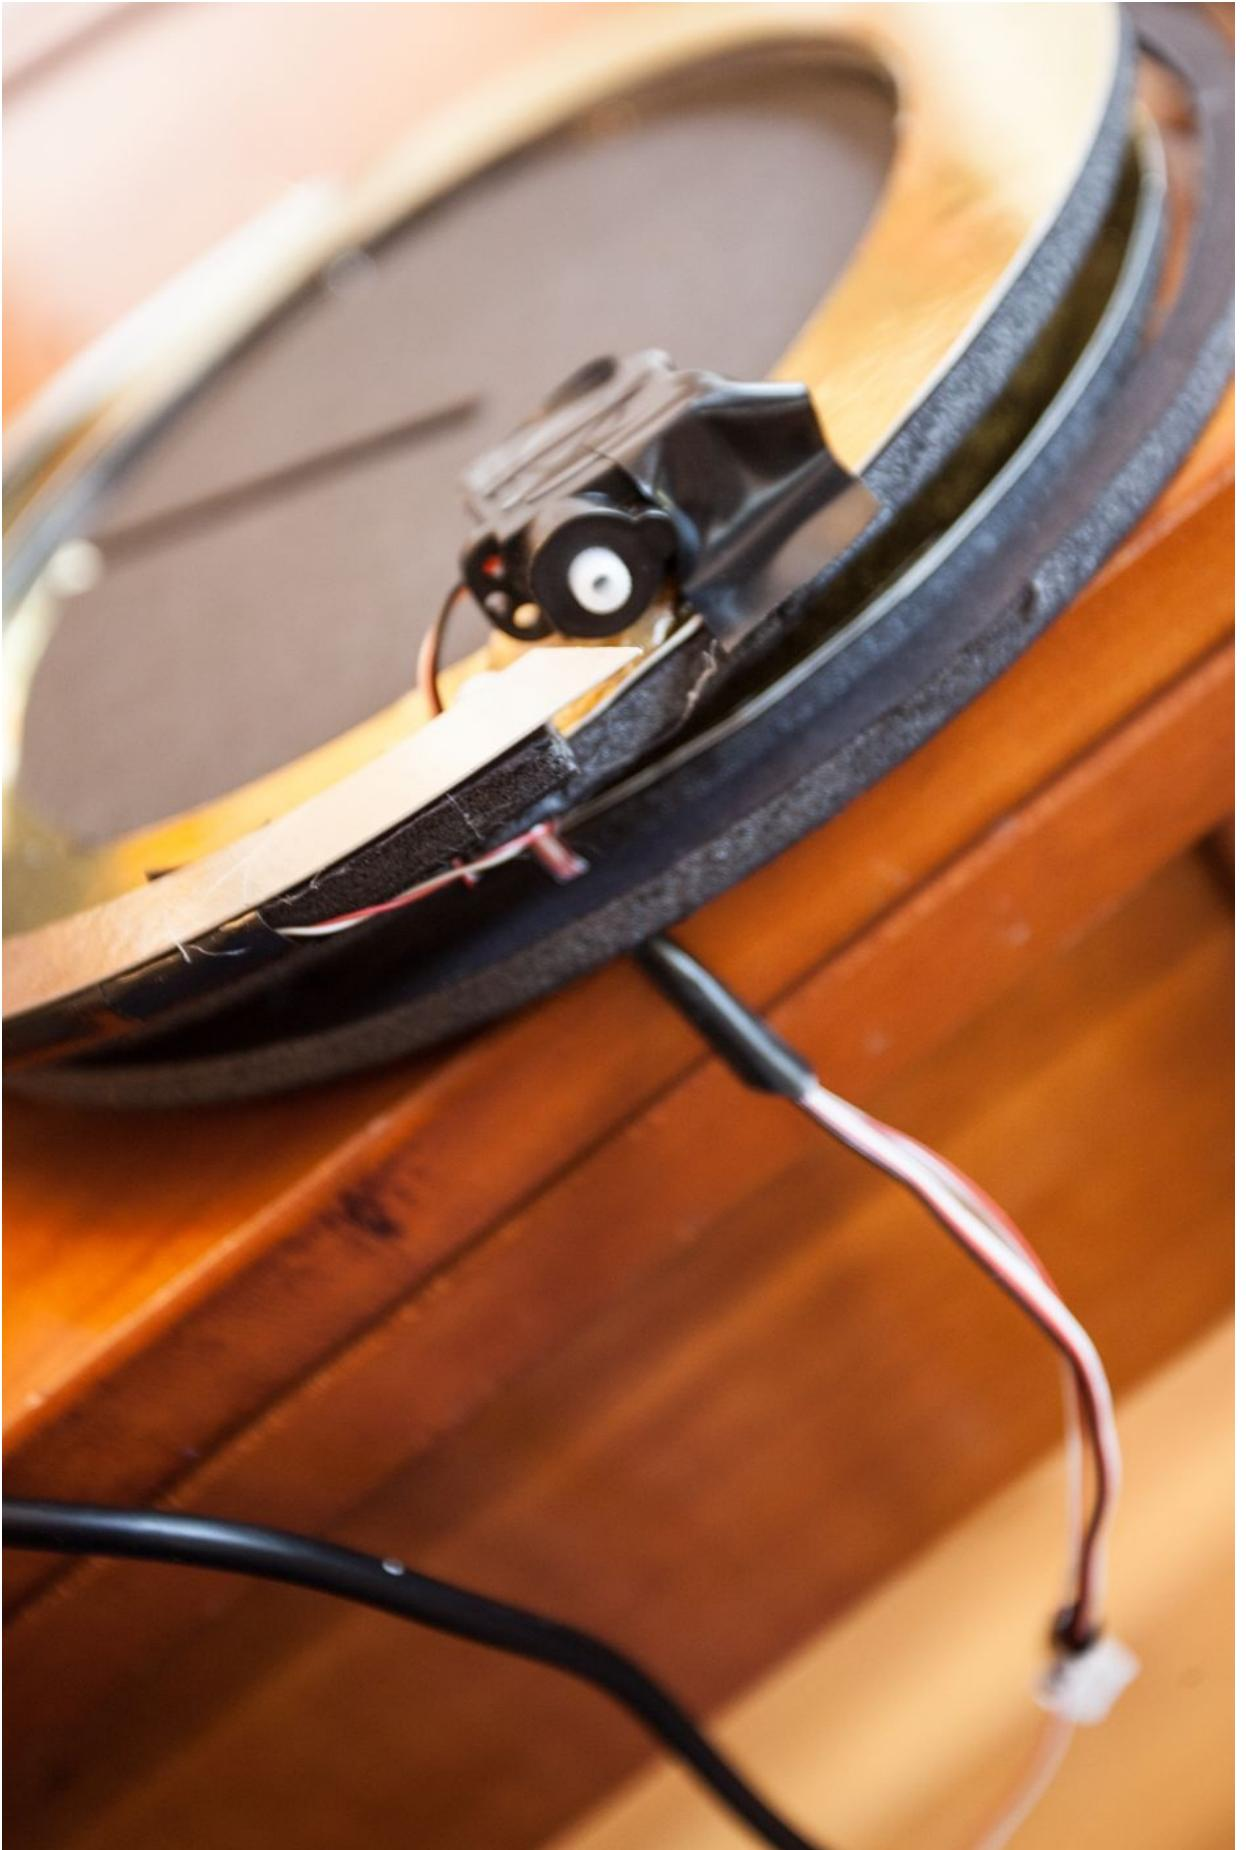

Figure 7-23. Running the servo and LED wires through the azimuth ring and base disk
1. Pull the elevation servo's wires and the LED wires through the wire hole in the azimuth ring and then through the track slot in the base disk, as seen in Figure 7-23. Rest the azimuth ring in its track on the base disk.